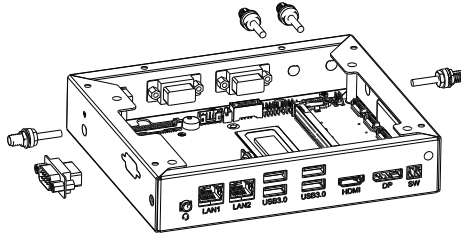

Figure 3-3-2
2. The installation method for 4G/5G antennas and GPIO is shown in Figure 3-3-2.